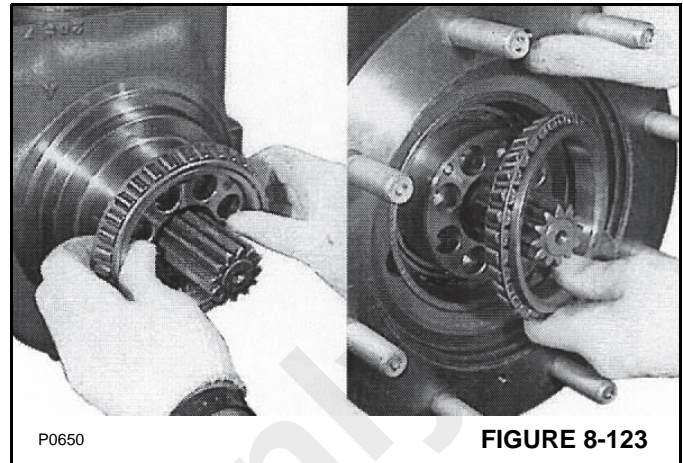

FIGURE 8-123
- Install the bearing cone on the swivel housing end (Figure 8-123).